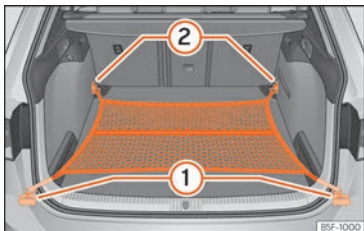

Fig. 151 In the luggage compartment: net bag hooked up at floor level (Leon Sportourer ST model).
- Secure the net hooks to the fastening rings ① and ② »» Fig. 151 »» ⚠. The bag zip should be facing upwards.